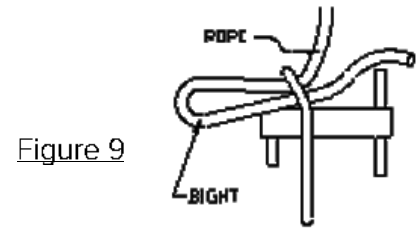

Figure 9
- To use the Port-A-Wrap begin by passing a loop (bight) of rope through the "small loop" as shown in Figure 9.